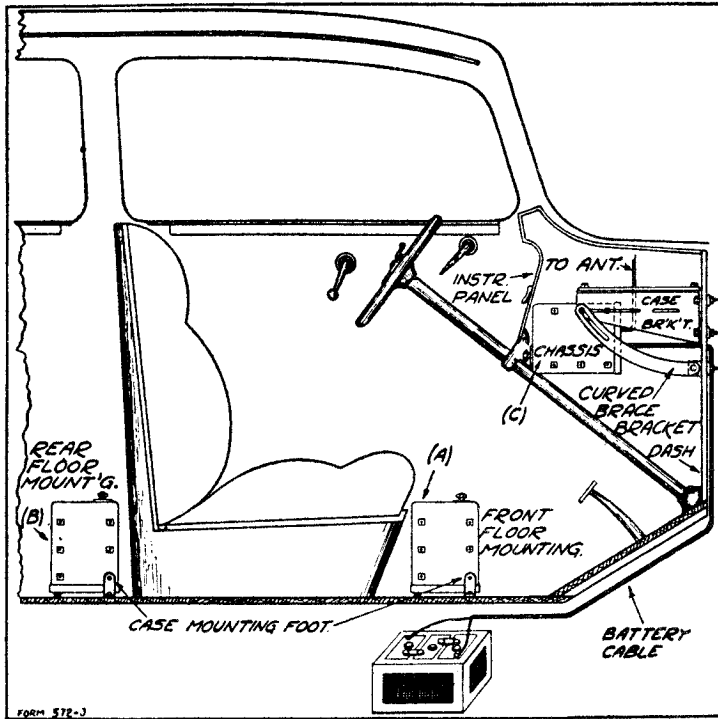

Fig. 1—Integral Mounting—Side View
By integral or all-in-one mounting of the chassis is meant operating the receiver by means of the controls on the chassis box (and not with a separate control unit). This method is the simplest, as no changes are required on the receiver. It can be installed in several ways, as explained below and as illustrated in Fig. 1. Still other methods of mounting and locations for the chassis will suggest themselves, depending on the space available and variations in the construction of different cars.
In Fig. 1(A) is shown how the chassis can be placed on the floor in front of the front seat. There are four rubber mounting feet on the bottom of the box, on which it stands. It may also be placed in back of the front seat (B) so as to be in the rear compartment of the car. In some cars, there is room enough between the two front seats for the chassis box to be placed. In coupes, the chassis may be placed on the shelf in back of the seat. Still other locations, as mentioned above, can be used, depending on the space available in different cars.
mounting. These mounting feet are shown in Fig. 1. One side of the foot, which is a small angle bracket, is secured to the end of the chassis box by means of one of the chassis mounting screws. The other side of the foot is screwed to the floor board or surface on which the chassis is resting, with a wood screw. The two feet are placed diagonally, that is on one end of the chassis box it is at the front, while on the other end it is at the rear.
In Fig. 1(C) is also shown how the chassis can be mounted on the dash by means of brackets, in such a way that the front portion of the box with the controls, is flush, or nearly so, with the instrument panel. This is a very desirable method of installation, as the receiver is rigidly in place, out of the way, and the controls are very accessible.
When mounted this way, two side case brackets (long type) are used, one on each end of the box, as shown in Fig. 1. Two mounting screws are generally used to secure each bracket to the end of the chassis box. Three may be used in cases where the distance between the instrument panel and dash is small. Six embossings with inset nuts are provided on each end of the chassis box. Any two of these or
three, as mentioned above, may be used for the bracket screws, which, together with the slots in the brackets, provides great flexibility in mounting. In addition to the side case brackets, two curved brace brackets and one cross strap brace as shown in Figs. 1 and 2 are used.
These can be put on in a number of different ways. The front or back case bracket screw can be used and the brace bracket itself can be mounted upward or downward. As a general rule it is mounted on the bracket screw farthest away from the dash and downward as shown in Fig. 1. The small angle brackets supplied with the receiver are secured at the base of the curved brace brackets as shown in Figs. 1 and 2, by means of the No. 10-32 3/8" Round Head Screw, nut and washer supplied. After the position of the brace brackets is decided on, put them in place and start the holes for them with a center punch. These brackets are bolted to the dash in the same manner as explained above for the case brackets.
it may have to be moved to either side. In some instances, it can be mounted at the center of the instrument panel, but may have to be moved down and nearer to the dash than as shown in Fig. 1. Consideration should be given to the possibility of